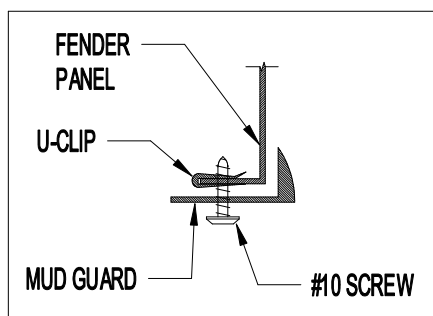

Figure 3
6. Install a #10 SEM screw through location D and into a U-clip on the backside of the liner (Figure 3).